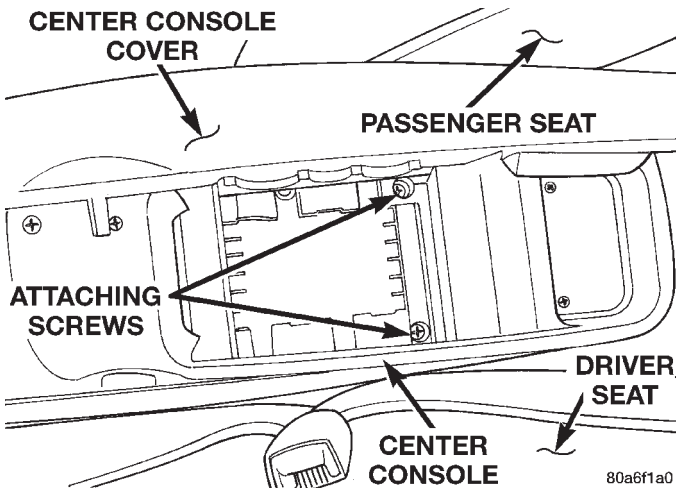

Fig. 143 Center Console Rear Attaching Screws
- (1) Remove the 2 screws (Fig. 143) attaching rear of center console assembly to console bracket.